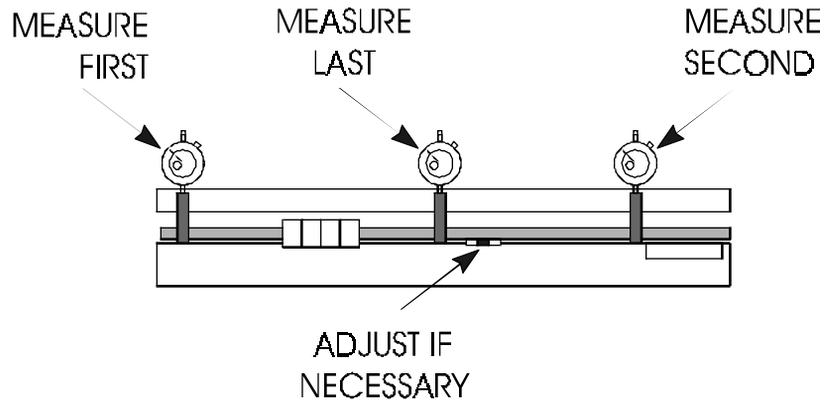

Figure 3-12. Measurement Positions for Slide Shaft.
- Place gauge against left side of shaft assembly allowing micrometer tip to rest directly on top of shaft. See Figure 3-12. **Zero the gauge** (this is to become the reference point).